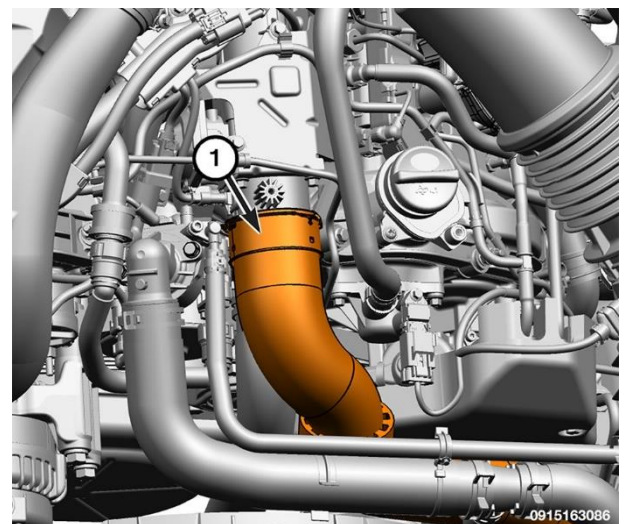

Figure 190 – CAC Hose
31. Release the retaining clip (1) and disconnect the CAC hose from the EGR air flow control valve (Figure 190).